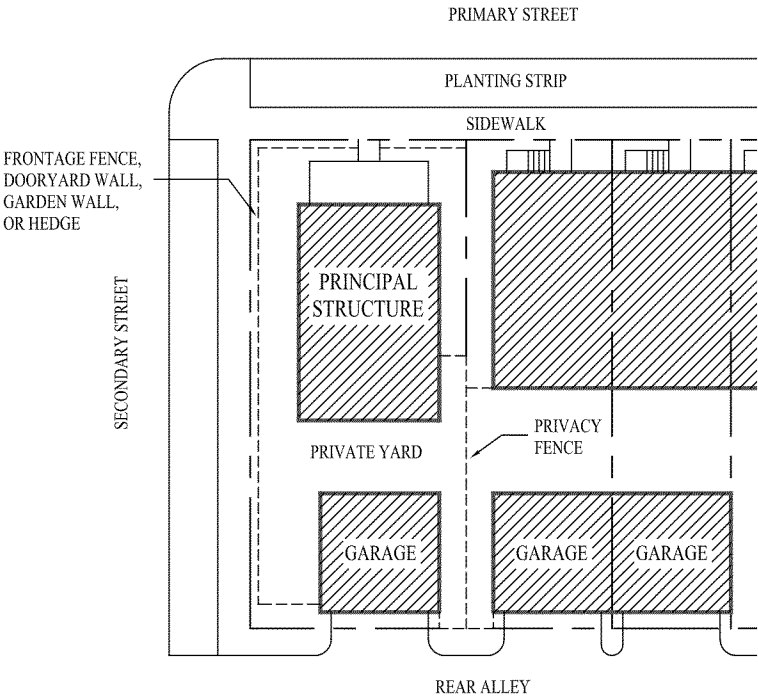

Figure 29
- permitted to extend up to 12' forward of the primary structure. See Figure 29.